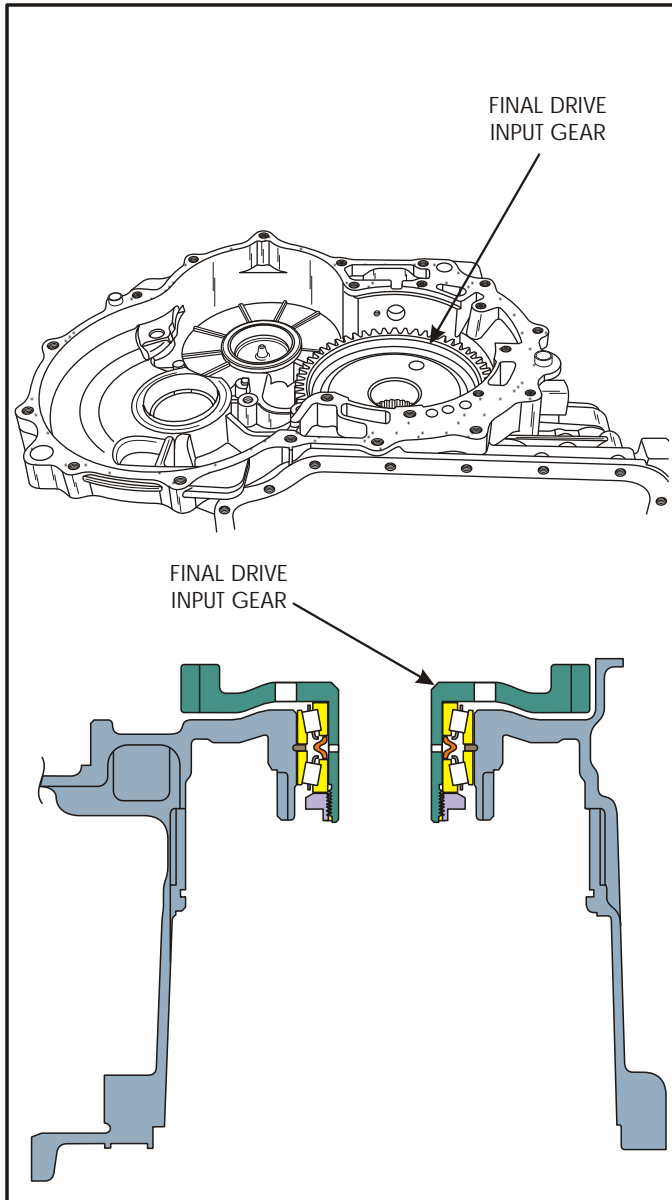

Figure 53
57. This now leaves nothing in the case except the final drive input gear, as shown in Figure 53.
Note: This gear involves an exceptional amount of set-up time if it is removed, as it involves a "Crush" sleeve (See Figure 53). Our recommendation is "Not" to remove it, if there is no problem with the bearings. "If there are problems with the bearings", refer to the complete bearing and shim set-up in the Component Rebuild section.